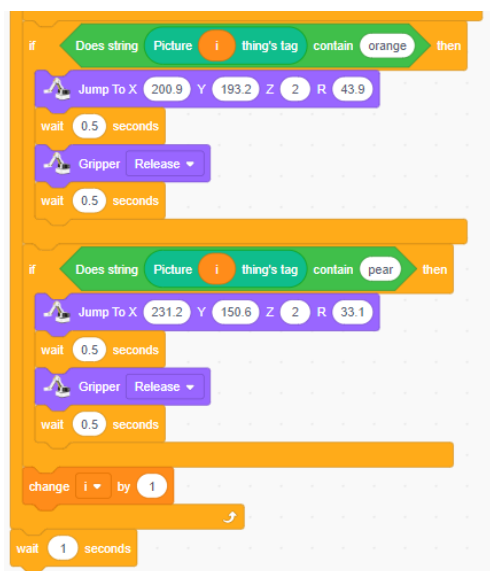

Figure 2.16 Repeat command
Step 10: After grabbing a goods, add 1 to the goods number, and judge whether the goods is all sorted. If there are still goods, continue to grab the goods to the corresponding shelf area until all the goods are grabbed. As shown in Figure 2.16.